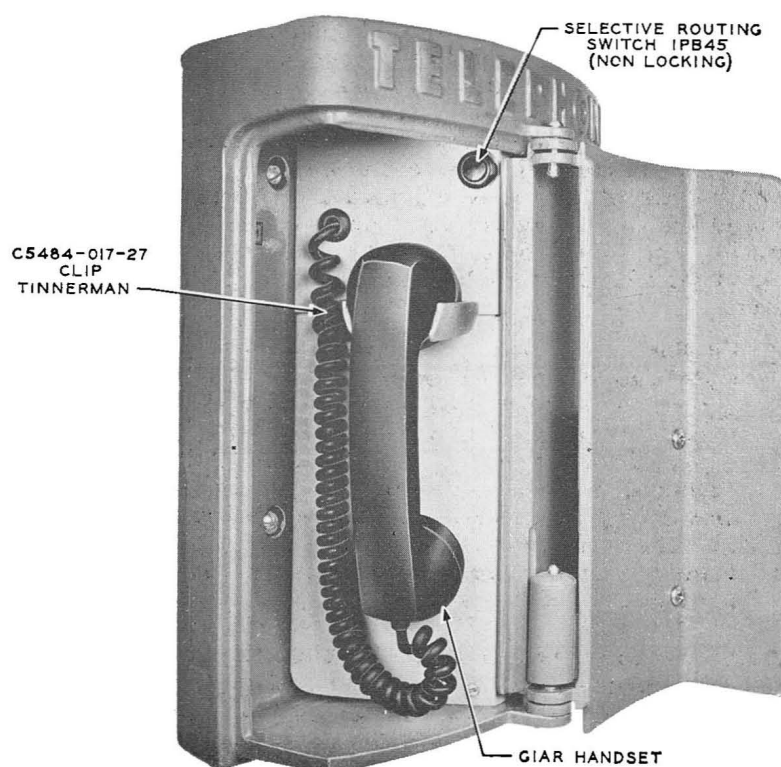
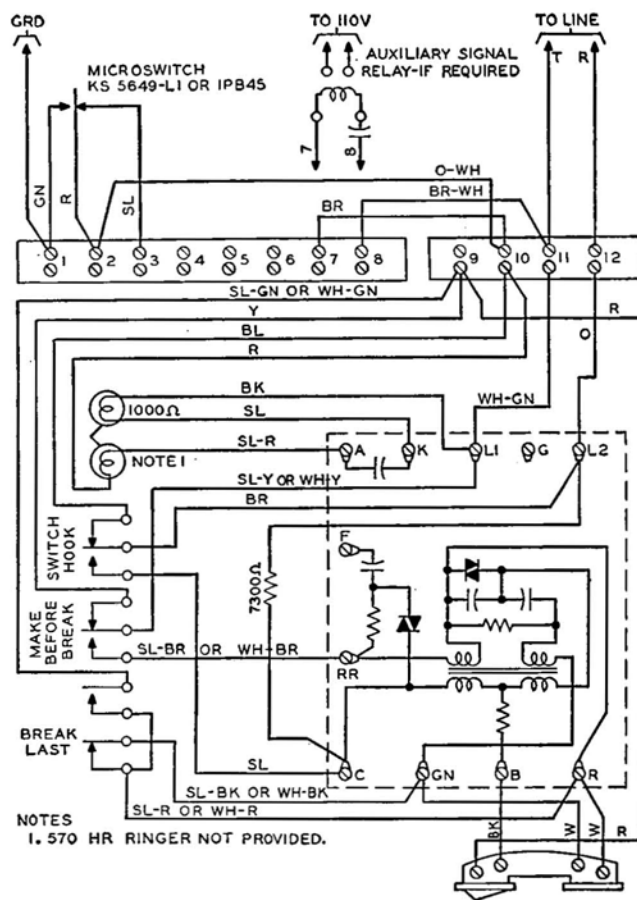

FIG. 4 — 570-TYPE TELEPHONE SET WITH DOOR OPEN SHOWING HANDSET AND SELECTIVE ROUTING SWITCH
FIG. 7—SCHEMATIC OF 570 DR, AND HR TELEPHONE SET
3.11 Component parts of the 570-type telephone set are shown in Figs. 4 and 5.
3.12 A push-button nonlocking-type microswitch for selective routing is provided on some types of sets (see Fig. 4). This switch is required when the telephone set is to be used for communication with *both* the fire and police departments. To route the call to police headquarters the push button must be held depressed during the time the handset is lifted from the hook. After the handset is lifted from the hook the push button should be released. The type of circuit used, as shown in Figs. 7 and 8, is governed by the type of equipment installed in the central office.